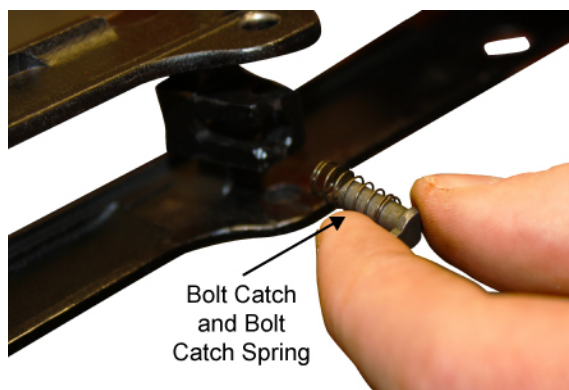

Figure 11. Remove the Bolt Catch and Bolt Catch Spring.
15. Remove the bolt catch and bolt catch spring from the receiver. Refer to Figure 11.